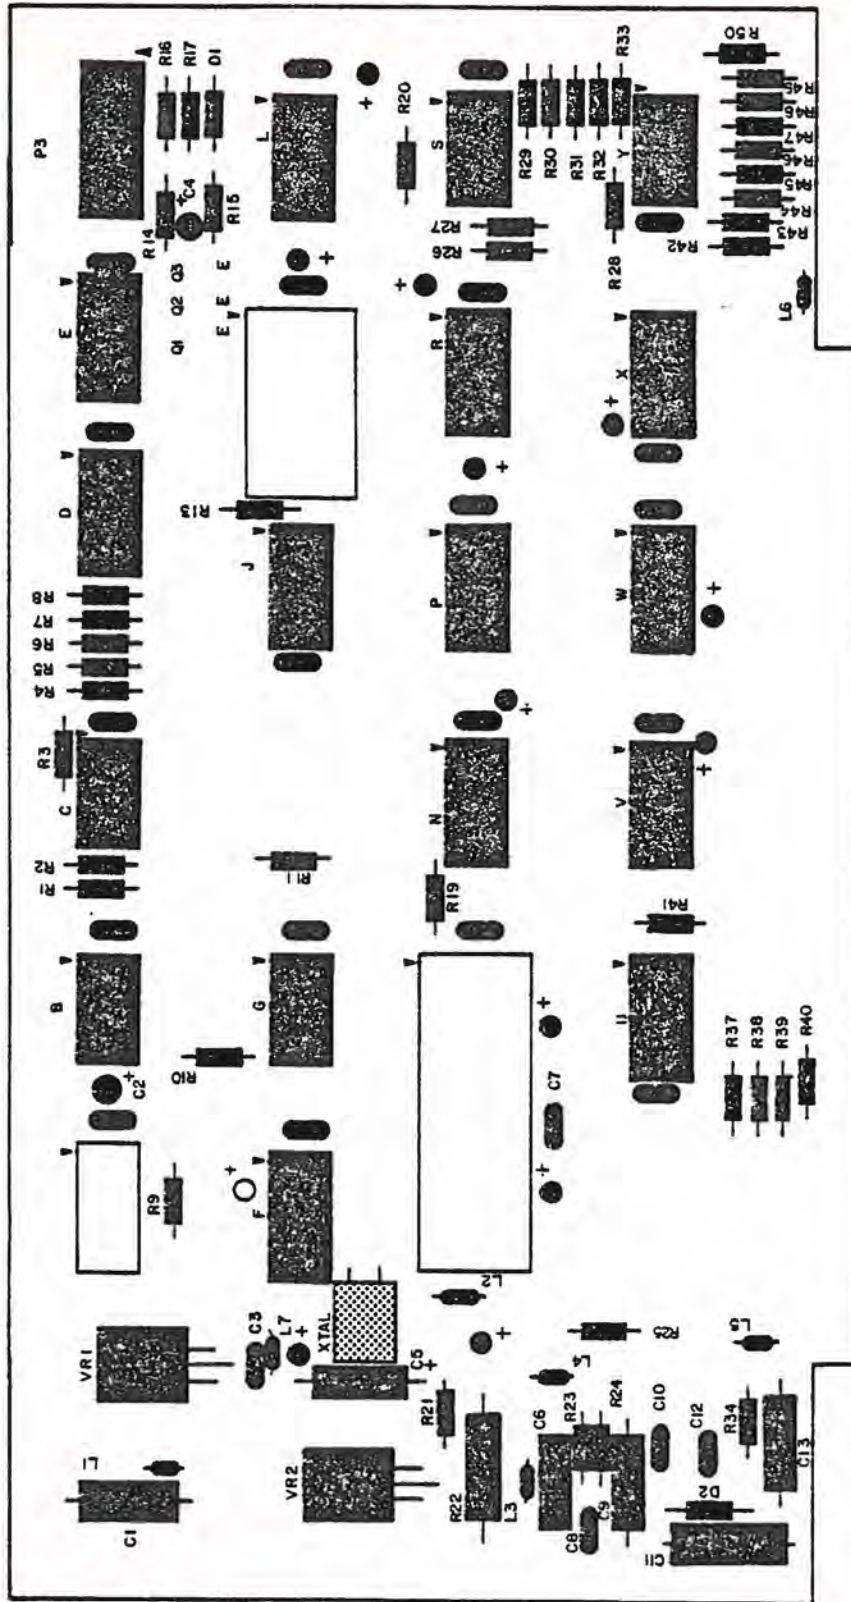

Figure 5-22 Crystal Installation
1. As illustrated in Figure 5-22, set the crystal in place on the silk-screened side of the CPU board, with identification markings facing up within the square labeled XTAL. Align both leads with their respective holes on the board.